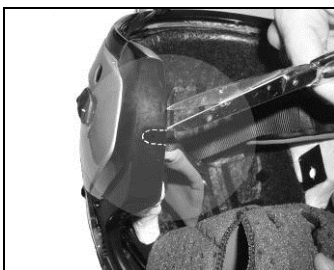

Fig. 13
- On certain helmets, the housing for the microphone rod must be created by cutting out the helmet border gasket along the pre-cut area. (Fig. 13)